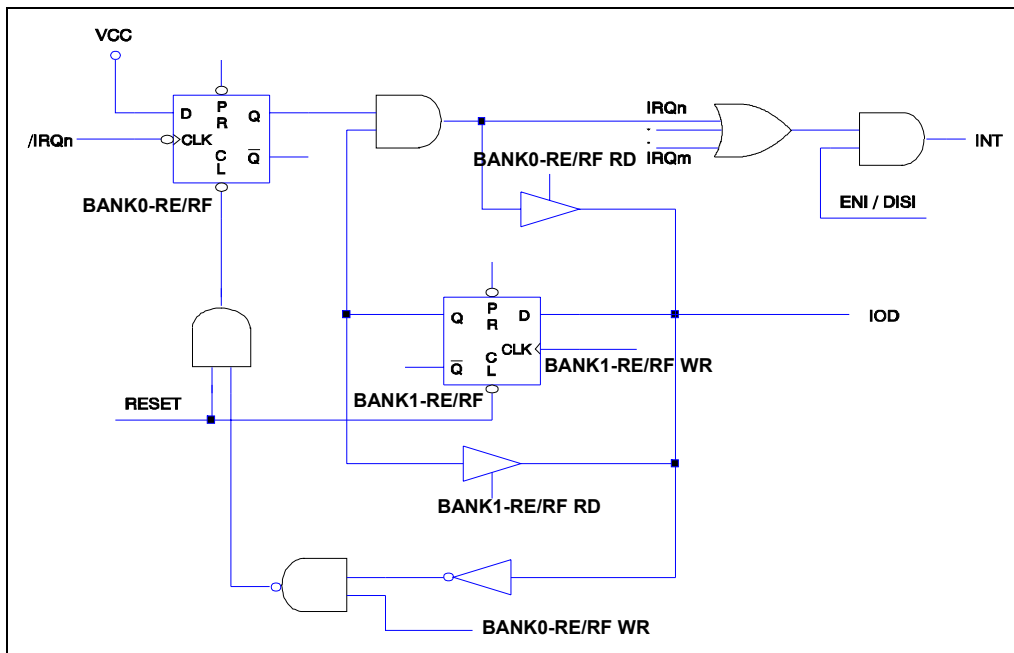

Fig. 6-8 Interrupt Input Circuit
When interrupt mask bits are "Enabled", the flag in the Interrupt Status Register (RF) is set regardless of the ENI execution. Note that the result of Bank 0-RE/RF will be the logic AND of BANK 0-RE/RF and Bank 1-RE/RF (refer to Figure 6-8). The RETI instruction ends the interrupt routine and enables the global interrupt (the ENI execution).